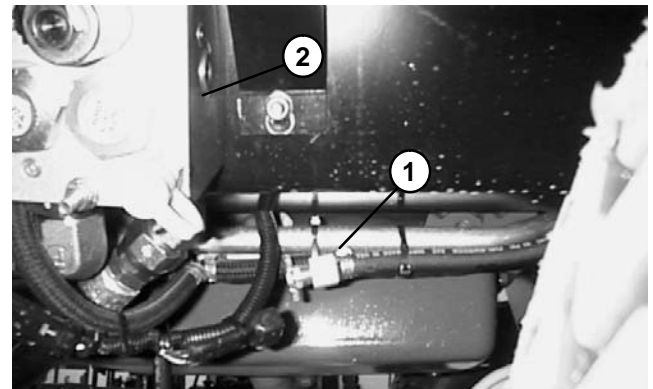

Figure 9
3. Drain radiator into a suitable container using the radiator drain. The radiator drain is located near the left hand wing deck manifold (Fig. 9).
5. Remove air cleaner hose (item 47).
6. Disconnect reservoir hose (item 11) from the radiator vent tube.